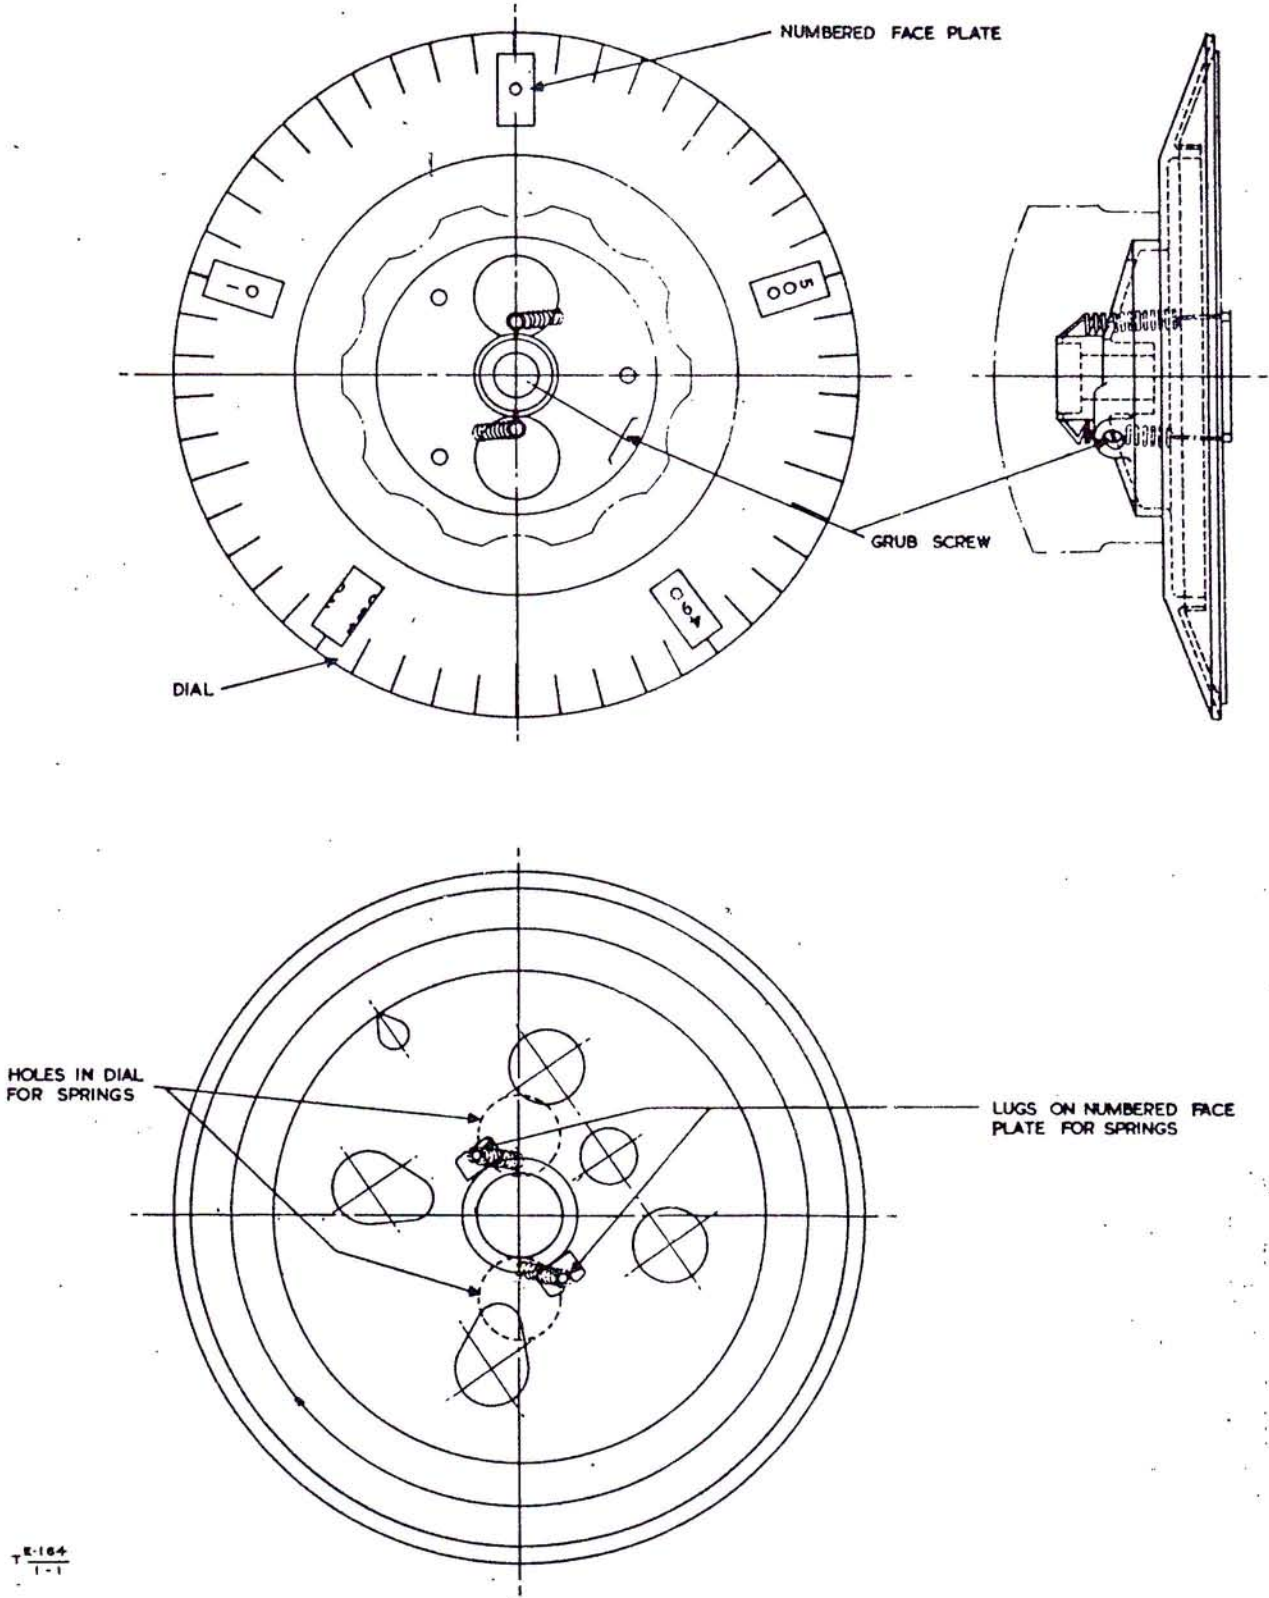

Fig 1 - Slow motion drive
3. Remove the dial and ganged capacitor assembly as detailed in para 2. The correct relative positions of the two parts of the dial are shown in Fig 1. Care must be taken to ensure that, with the dial window displaying the 0 at 11 o'clock, the two retaining springs are in the position shown in Fig 1 and the dial grub screw is at 3 o'clock, when seen from the front of the dial. The two springs must not be above the opposite sides of the holes in the dial, which position will show a 0 in the dial window but with the grub screw lying almost opposite the 0. If assembled incorrectly the springs will be stretched against the sides of the holes instead of travelling clockwise across the space provided.